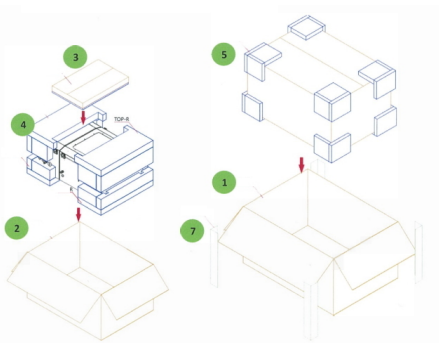

Figure 4. Unpacking the 8010cX Ammonia Analyzer
5. Open the box and remove the accessories boxes from the top, See **Figure 4**